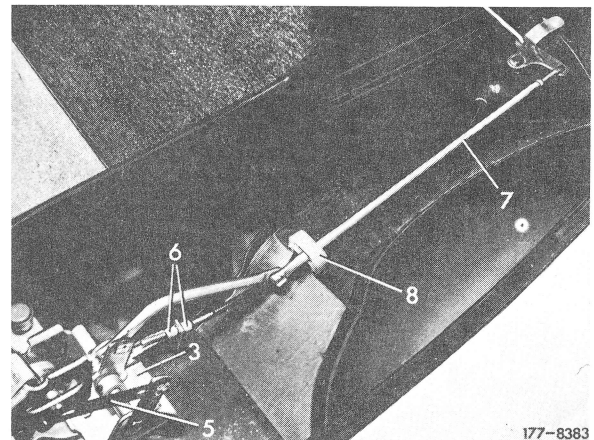

Fig. 2b
Push holder (8) out of oblong holes and push rearward over push rod (7) (Fig. 2b).
Note: In the event of repairs, install only changed guide bearing with push rod according to Fig. 2b.